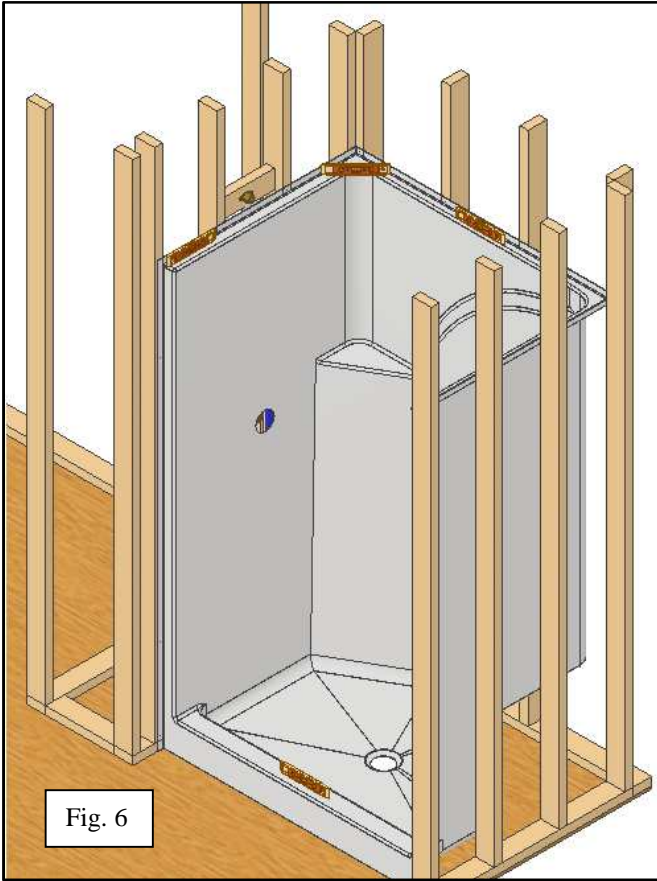

Fig. 6
- 6) After unit is positioned in framed area, check level of shower and make sure that apron is tight down on the floor. (Fig. 6, 7, & 8)